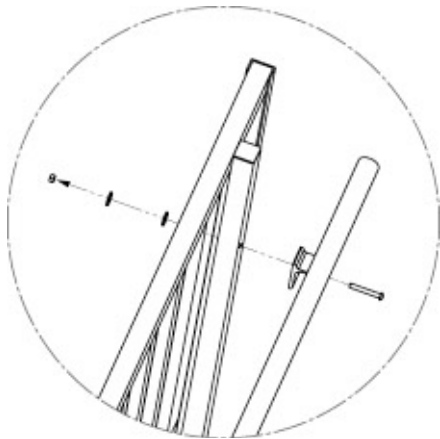

FIG. 31
- 7.1.1 Starting at the lower end of ramp system, attach first handrail section by aligning holes in the handrail brackets with the holes in the guard vertical posts (FIG. 31). Secure with one 5/16"-18 x 2 1/2" button head bolt, washers and nylock nut (place two washers and nylock nut on outside of ramp).